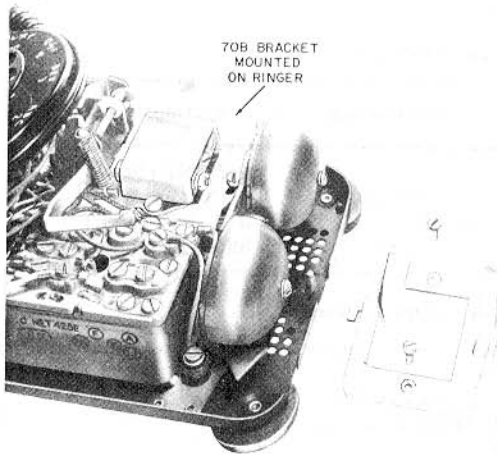

Fig. 12—70B Bracket
3.05 When mounting KS-8108, KS-8109, and KS-8110 type buzzers on a 70B bracket (Fig. 12) position the buzzer so that it will not interfere with the electrical or mechanical operation of the telephone set, and so the buzzer adjustment screw is accessible.